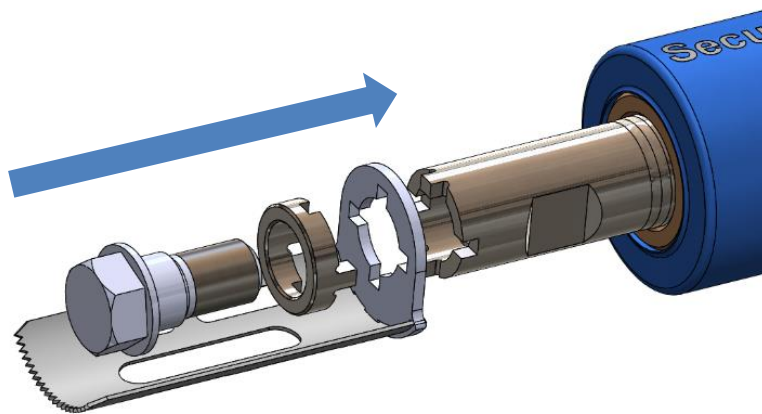

fig.2:
3. Position the washer. The notches in the washer must point toward the saw and positioned against on the spigots (see fig. 2).